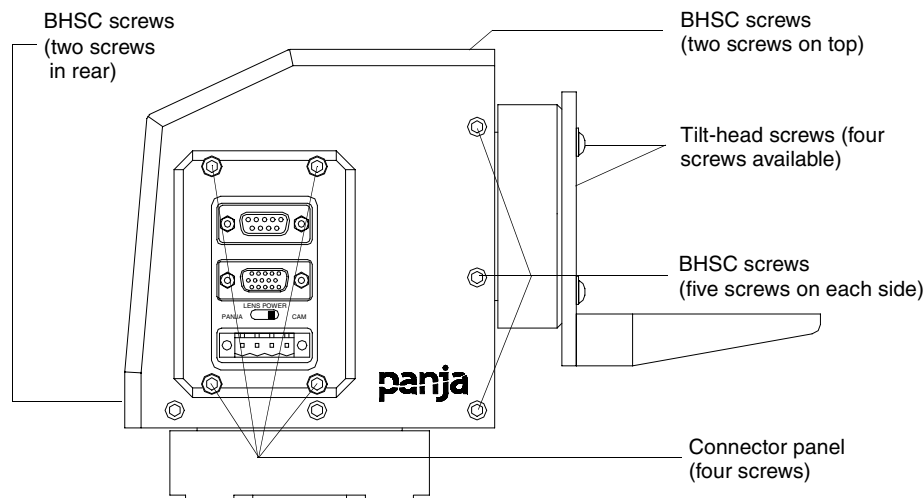
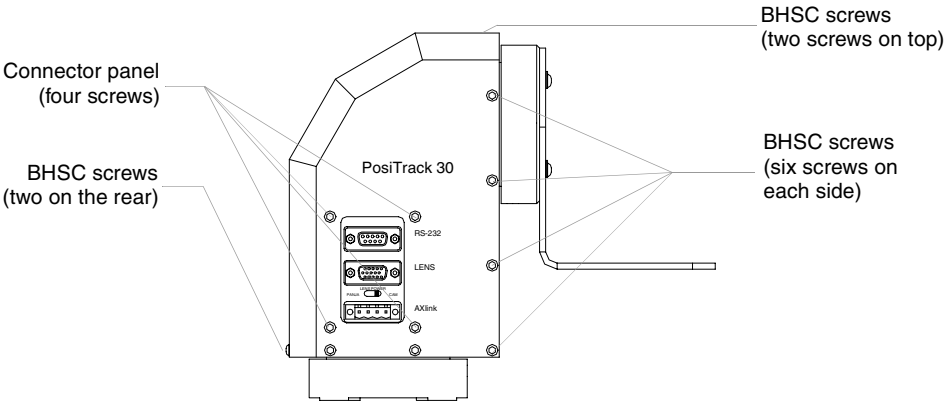

FIG. 6 Pan-head screw locations
FIG. 9 Pan-head screw locations
3. Remove the four screws, located around the connector panel (FIG. 6), by using the 1/16" Allen wrench. *BHSC is the abbreviation for the Button Head Socket Cap screws.*
3. Using the 1/16" Allen wrench, remove the four #4-40 socket head screws located around the connector panel (FIG. 9), by using.
4. Remove the 16 BHSC screws, using the 5/64" Allen wrench, from the left, right, top, and back sides of the AXB-PT30. A sample view of the screw locations is shown in FIG. 9.
The camera/lens power switch, located between the AXlink and DB-15 connectors, regulates the power to the camera/lens from the PosiTrack unit. The power switch, seen in FIG. 6 and FIG. 9, Opens (turns Off) or Closes (turns On) the circuit feeding power to the camera/lens assembly. Refer to the *Wiring the Connectors* section on page 18 for more information about the control panel.